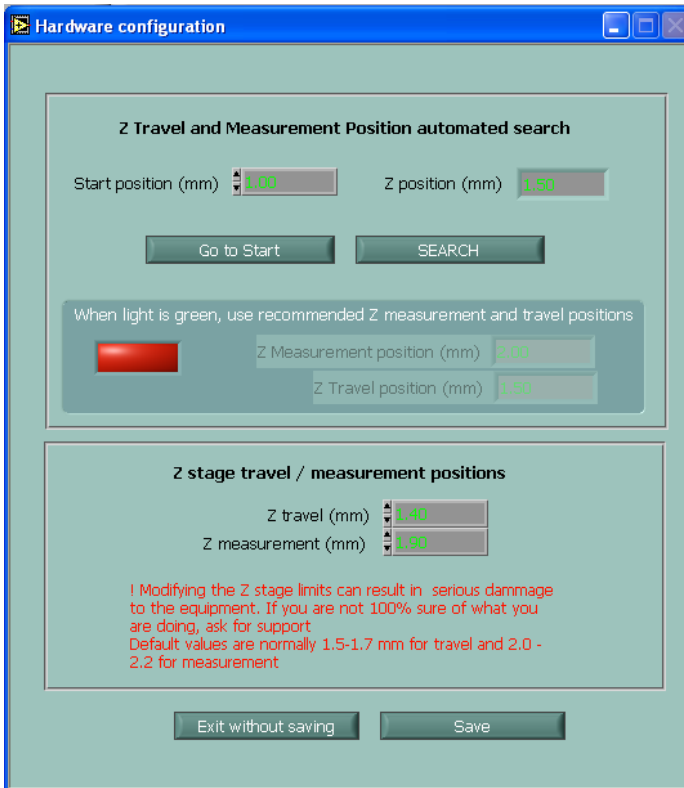

Figure 5 - LabVIEW Hardware Configuration sub-vi to optimize Z Travel and Measurement positions
- Choose an X and Y position (for example center of wafer) and click on Hardware Configuration. The window showed on Fig. 5 will open. Z Travel and Z Measurement can be defined in the lower window. By clicking on Save, the 2 values will be automatically saved to the Config.txt file located in the same directory as the LabVIEW application so that these values will be automatically recalled when the application is launched at a later time.